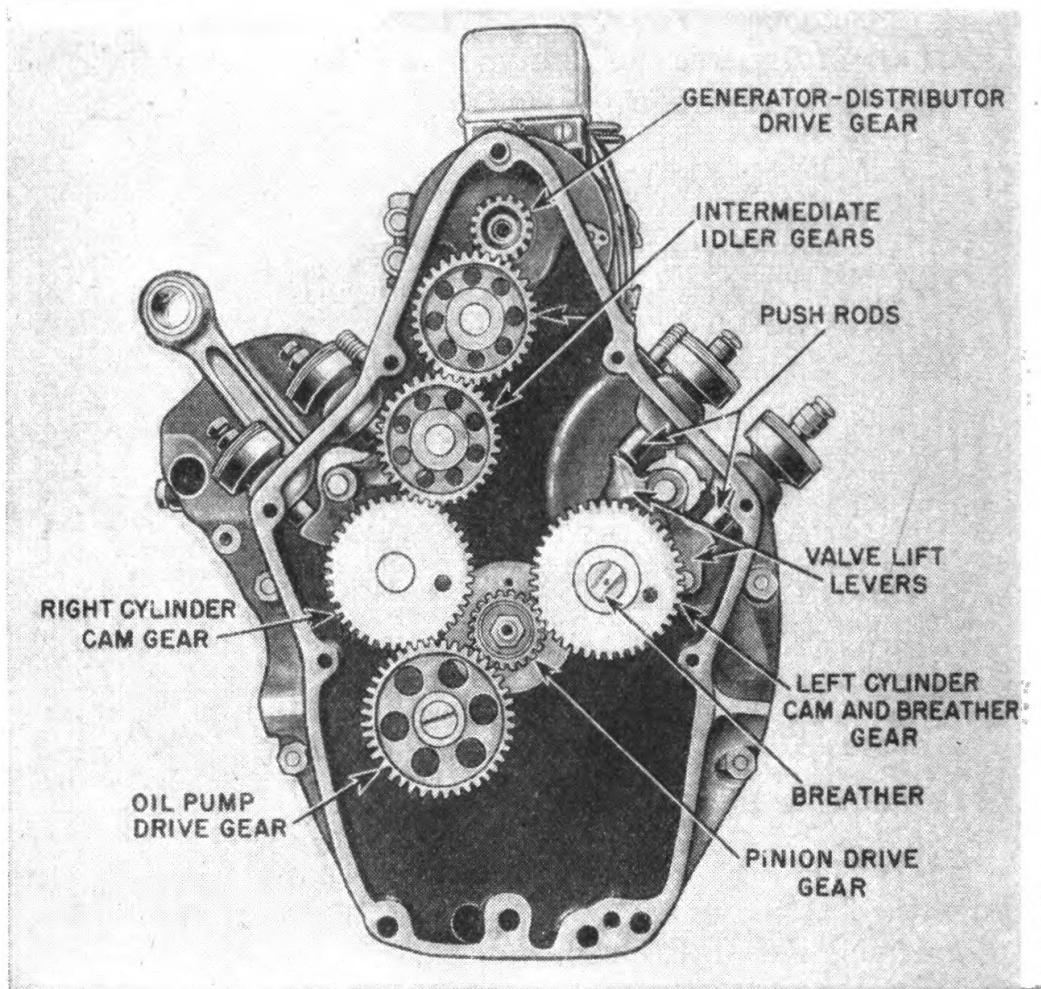
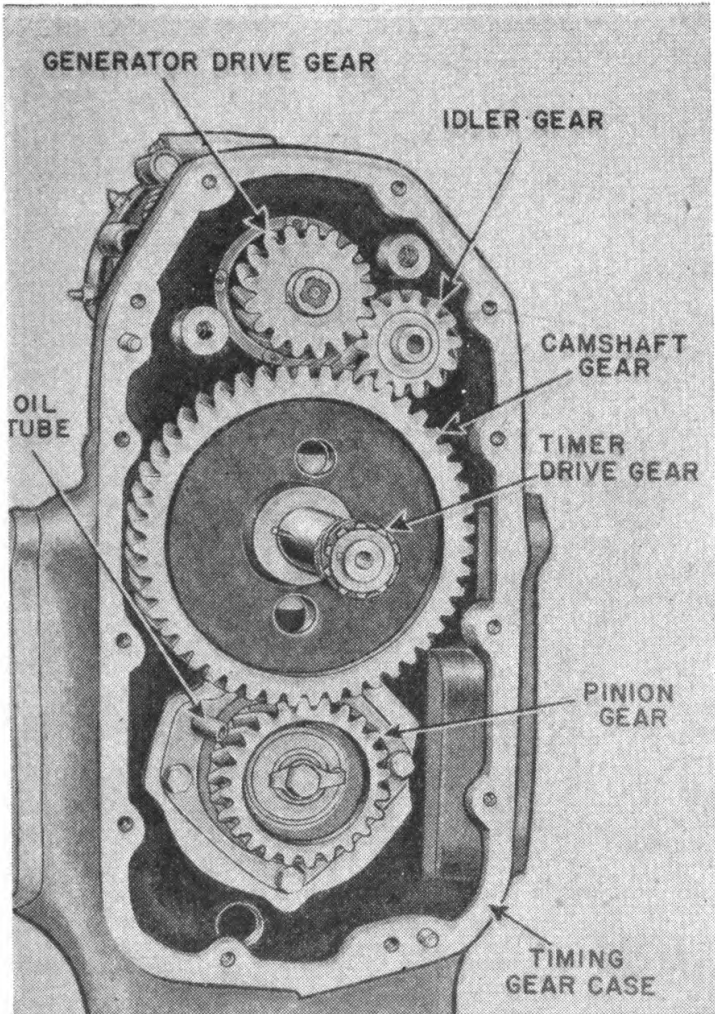
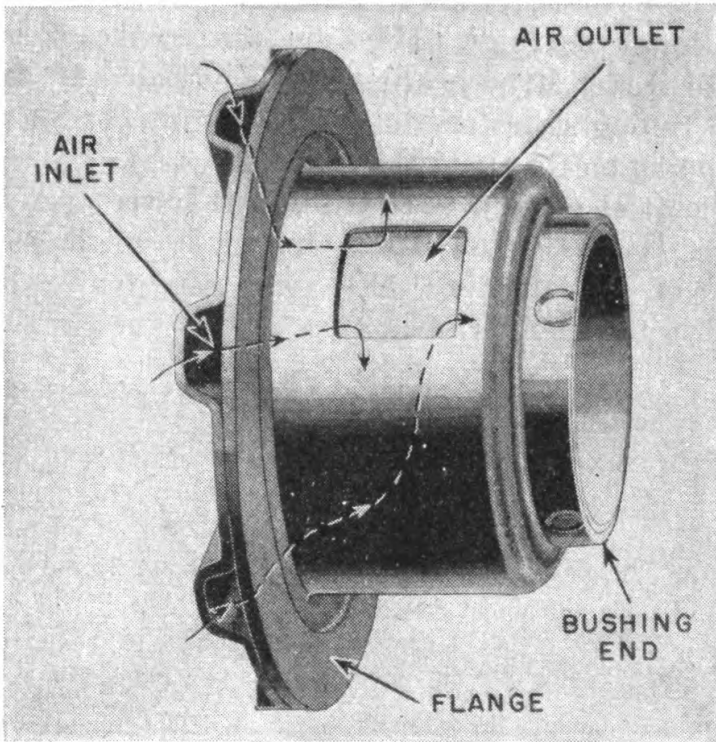

FIGURE 74.—Timing gear train of Indian shaft-driven model.
FIGURE 75.—Timing gear train of Harley-Davidson shaft-driven model.
FIGURE 78.—Breather valve on Harley-Davidson engine.
**64. Valves and timing mechanisms.**—*a.* The timing gear trains of shaft-driven models are located in front of the engines and are accessible by removing a cover plate. Figure 74 shows two camshafts (one for each cylinder) which operate the intake and exhaust valves on the Indian engine. Harley-Davidson has a single camshaft (fig. 75) operating the valves of both cylinders.
**65. Lubrication.**—*a. Indian.*—(1) The feed pump and scavenger pump of the dry-sump lubrication system on the Indian motorcycle
ing in the crankcase. Both pumps are driven by a shaft slotted to the oil-pump drive gear shown in figure 74.
(3) The breather valve (fig. 78) fits around the front end of the camshaft, and the small-diameter end of the valve fits into a bushing hole in the timing-gear cover. A flange on the large end of the breather valve has several air holes about its edge. The flat surface of this flanged end fits against the face of the camshaft gear, and a small pin on this gear (fig. 75) turns the breather valve when the engine is running. The foul air in the timing gear case enters the flange holes and is expelled through the hole in the small end of the valve.
(4) Oil circulation is indicated by a small red lamp on the instrument panel in the same manner as on the chain-driven model.